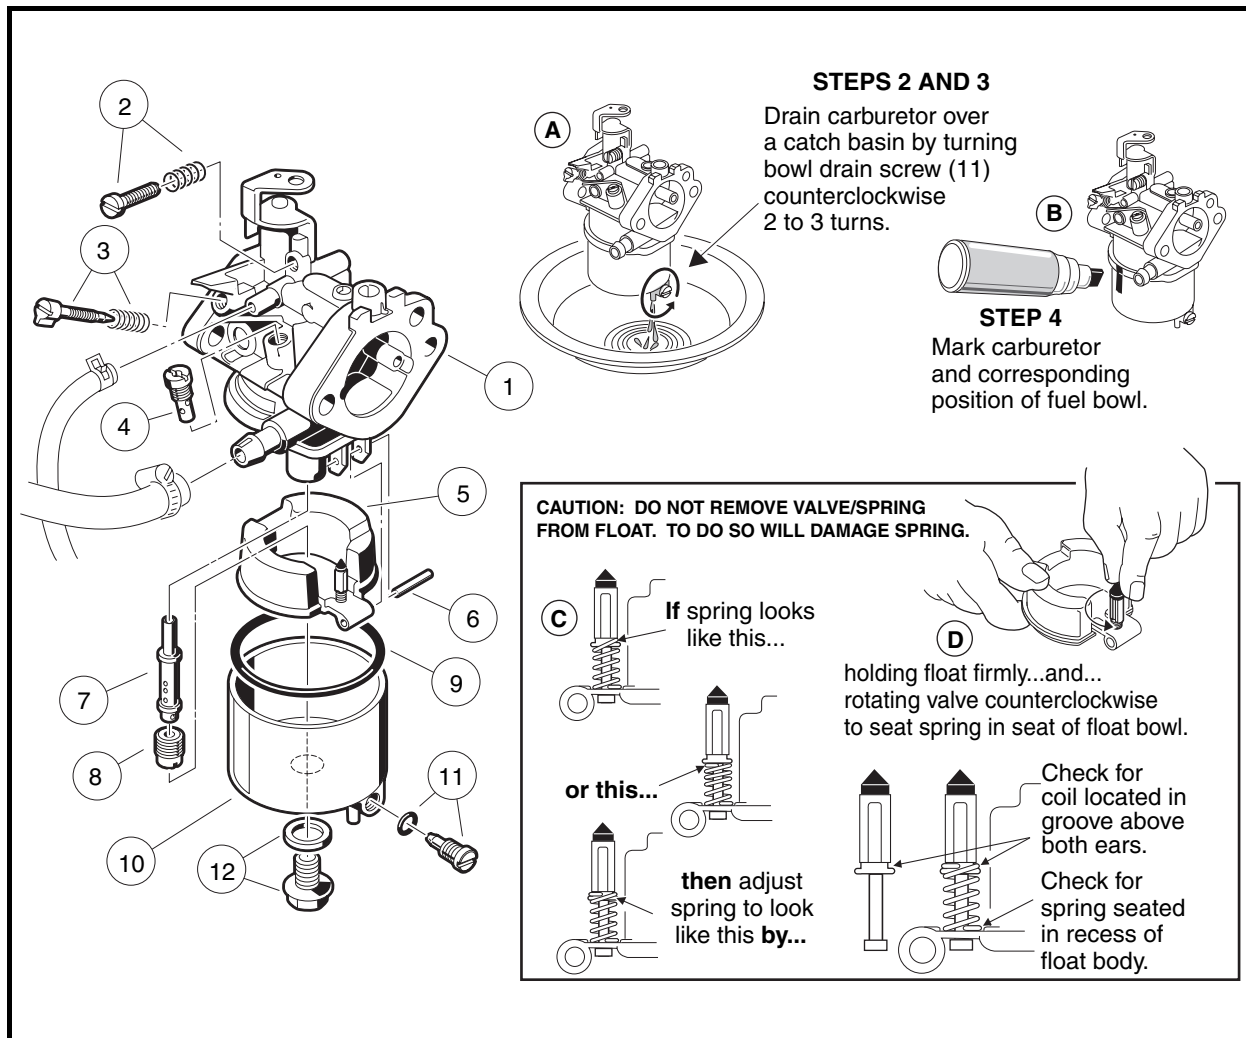

Figure 14-2 Changing the Main Jet
2. Position the carburetor with the drain screw (11) over a catch basin (**Figure 14-2, Page 14-4**).
3. Turn the carburetor bowl drain screw counterclockwise two or three turns and drain all the fuel from the bowl into the catch basin (**Figure 14-2, Page 14-4**). Tighten the drain screw to 10 in-lb (1.1 N·m). Return fuel to the fuel tank or dispose of properly.
4. Mark the body of the carburetor and the carburetor fuel bowl with an indelible ink marker so that, after removal, the bowl can be installed again in the same position (**Figure 14-2, Page 14-4**).
5. Remove the carburetor fuel bowl retaining screw and washer (12), then remove the fuel bowl (10) and clean it with a nonflammable solvent (**Figure 14-2, Page 14-4**). **See following NOTE.**
NOTE: Make sure the fuel bowl gasket (9) remains properly seated in the carburetor body when the fuel bowl is removed (Figure 14-2, Page 14-4).
6. Remove the main jet (8) from the carburetor body and discard it (Figure 14-2, Page 14-4).
NOTE: Make sure the fuel nozzle (7) does not fall out of the carburetor body after removal of the main jet. This is best accomplished by positioning the carburetor upside down during main jet removal (Figure 14-2, Page 14-4).
NOTE: *Inspect the main jet nozzle (7), and pilot jet (4) to ensure they are free from contamination. Replace any part that is clogged with contamination. Replace the float if it is damaged, or if the float valve is damaged or worn. Examine the float valve/spring assembly to make sure the spring is installed correctly (Figure 14-2, Page 14-4).*